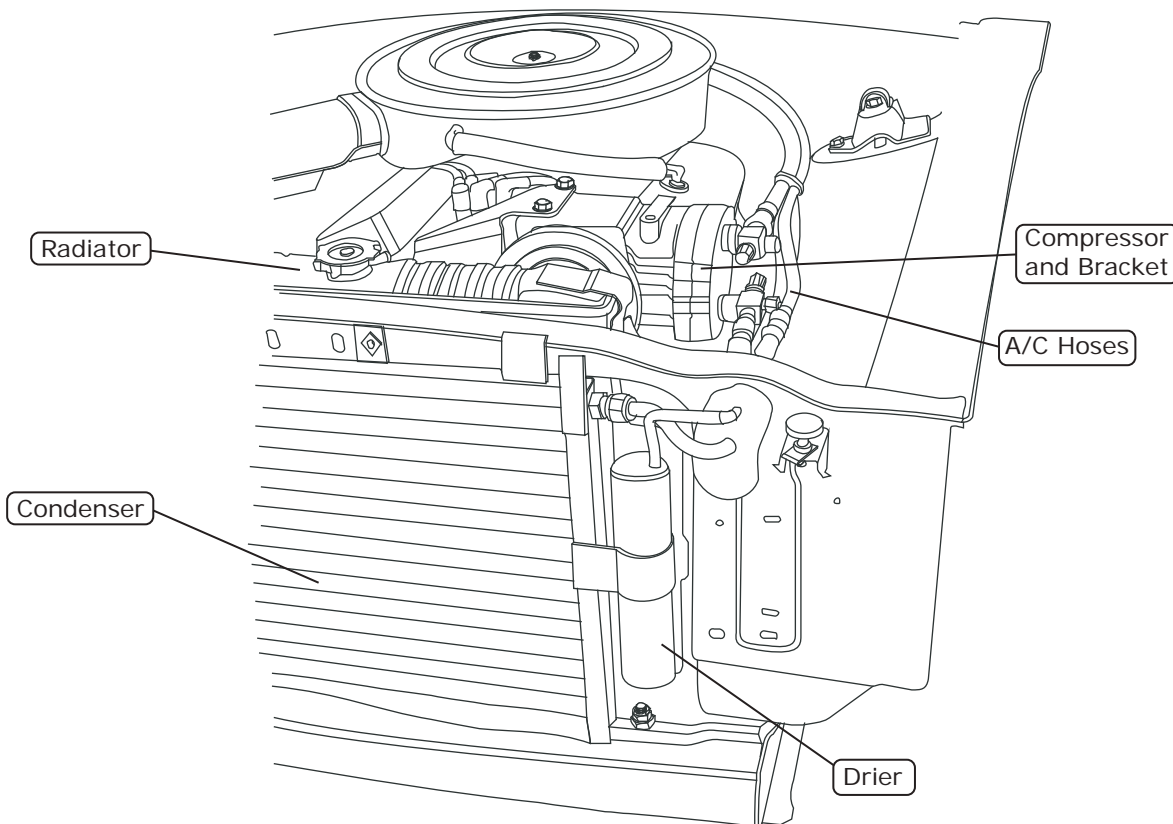

Figure 1
6. Remove the OEM condenser and drier (discard) (See Figure 1, below).
7. Remove the OEM compressor and bracket (discard) (See Figure 1, below).
8. Remove the OEM heater & A/C hoses (discard) (See Figure 1, below).
1. Remove the glove box (retain) (See Figure 1, below).
1. Install the defrost ducts under the dash, then secure using (4) OEM nuts as shown in Figure 1, below.
2. Hold the fresh air cap under the dash and mark the (3) mounting holes.
3. Drill (3) 1/8" mounting holes under the dash (See Figure 1, below).
4. Apply a 1/4" bead of silicone around the mating surface of the fresh air cap as shown in Figure 1, below.
5. Secure the fresh air cap to the fresh air hole using (3) #10 x 1/2" sheet metal screws as shown in Figure 1, below.
1. Install S-clips onto the center louver hose adapter (See Figure 1, below).
2. Install the center louver hose adapter onto the outside of the OEM center louver assembly, through the radio opening as shown in Figure 1, below.
3. Remove the driver- and passenger-side louver door flaps (See Figure 1, below).